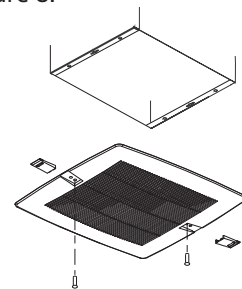

Figure 8 — Attaching Grille
3. Slide attachment screw covers over the attachment screws, shown in Figure 8.